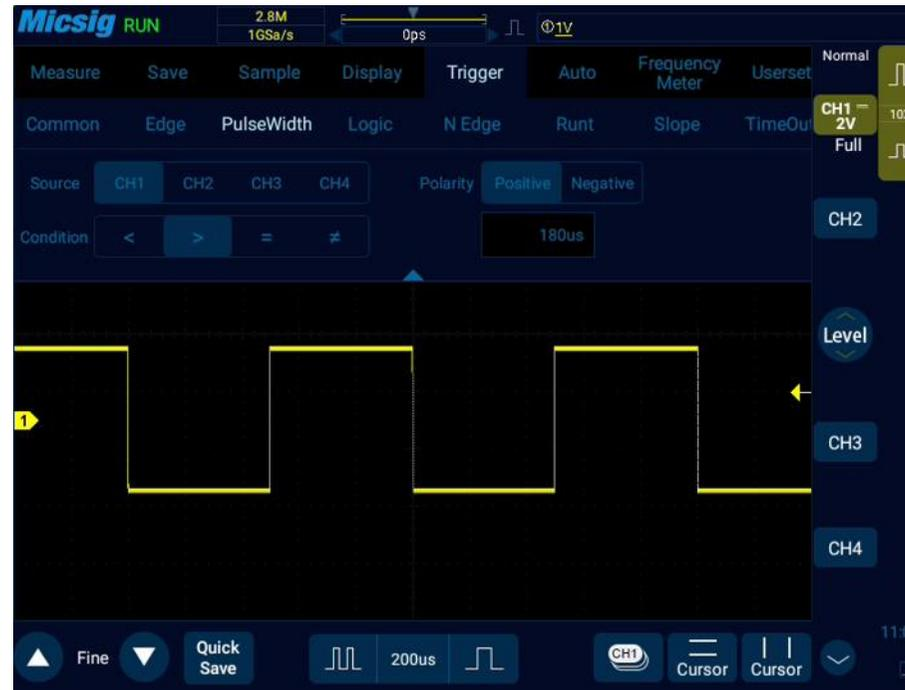

Figure 6-13 Pulse Width Trigger Setting Menu
- 1) Tap “Trigger” on the main menu to open the trigger menu, select the pulse width trigger in the trigger type, and set the pulse width trigger as follows, as shown in Figure 6-13: